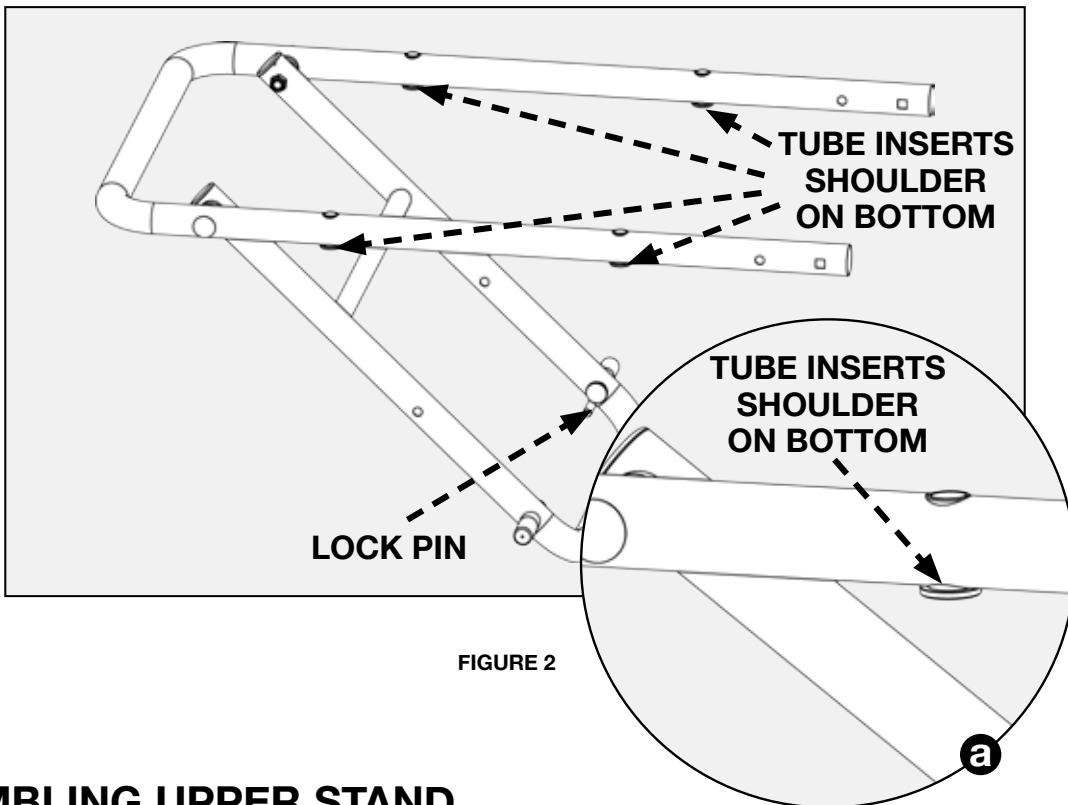

FIGURE 2
**NOTE:** Orientation of I2 lock pin is on the right side of the assembly and orientation of I1 will have shoulder of tube inserts on bottom as shown in Figure 2.
Finished upper stand assembly will appear as shown in Figure 2.